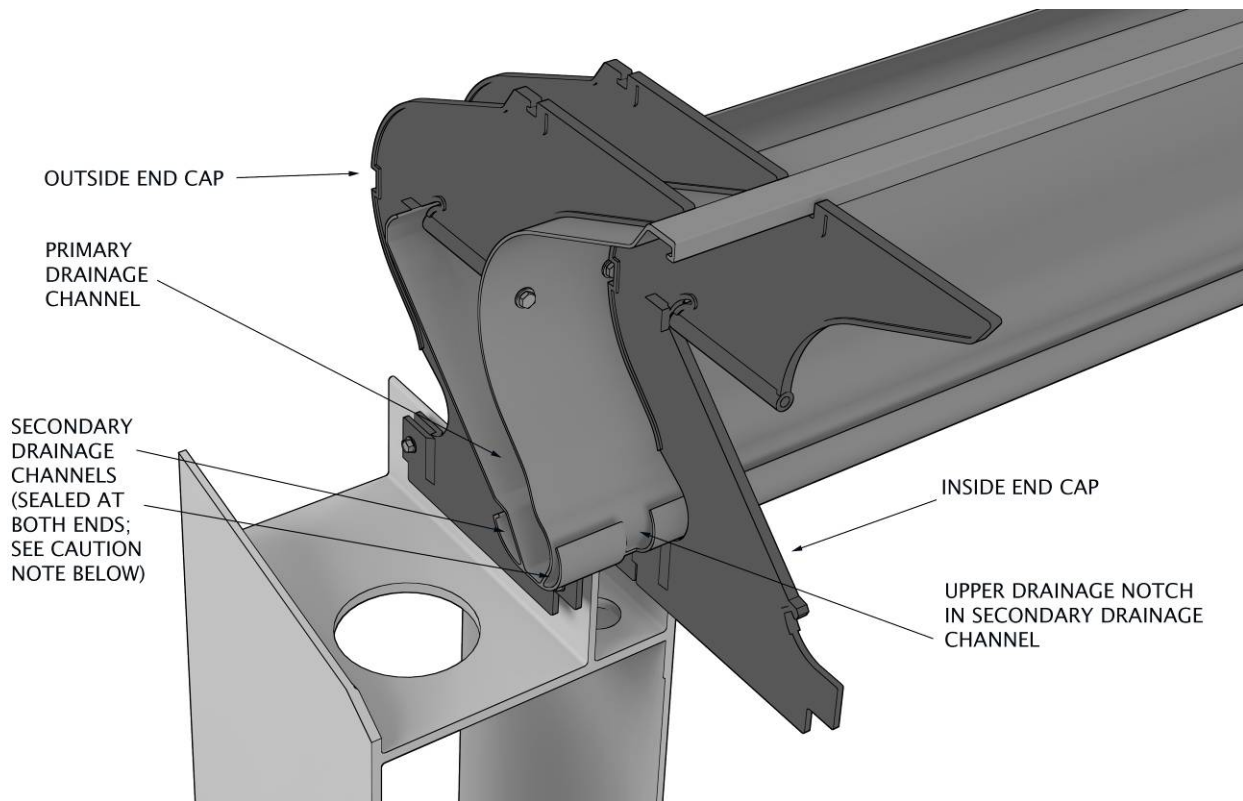

Figure 59 – Close-Up View: Water Collection System
- **Secondary Drainage Channels:** Located at the bottommost section of a collector vane, secondary channels are designed to capture water drops adhering to the exterior surfaces of a collector vane. If a secondary drainage channel becomes clogged with scale, dirt or debris, it is possible that some water may escape containment. Secondary drainage channels should be inspected periodically, both visually and by feel, to ensure they are free of scale, dirt and debris. Refer to Figure 59 and 60.
- **Flow-Thru Basin Primary Drainage Holes** in the Perimeter Basin Wall allow cooled water exiting the Water Collection System to flow into the Flow-Thru Basin. Refer to Figures 59, 60 and 61.
- **Flow-Thru Basin Secondary Drainage Holes** in the Perimeter Basin Wall allow any water that escapes primary containment within the collector primary drainage channels to be channeled back into containment within the perimeter basin beam. Refer to Figures 59 and 60.